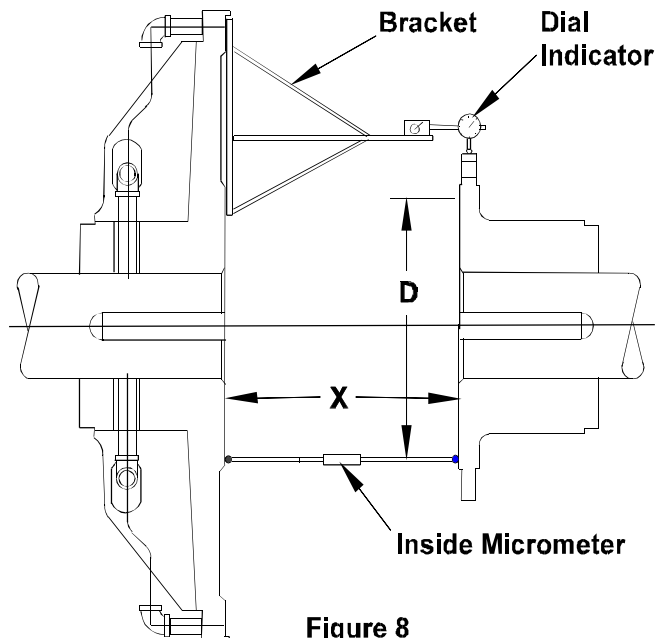

Figure 8
Not to be exceeded 0.0005 inch per inch (.0005mm/mm) diameter at which readings are taken (“D” on Fig. 8).
- 2.4.1 Foundations must be set so distance “X”, shown in Figure 8, is established. If the clutch is mounted on a shaft having plain bearings, make sure the shaft is centered within the bearings when establishing the “X” dimension. Refer to Table 2 for appropriate “X” dimensions.
- 2.4.2. Fabricate a rigid bracket for supporting a dial indicator and attach to the spider. See Figure 8.